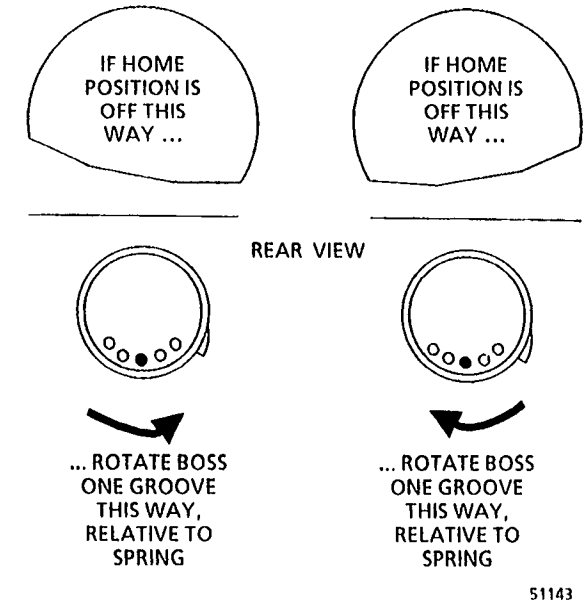

Figure 3. Adjusting the Paper Feed Roller Home Position
3. (Figure 3): Rotate the boss one groove in the direction that the paper feed roller home position must move, and reinstall the boss.